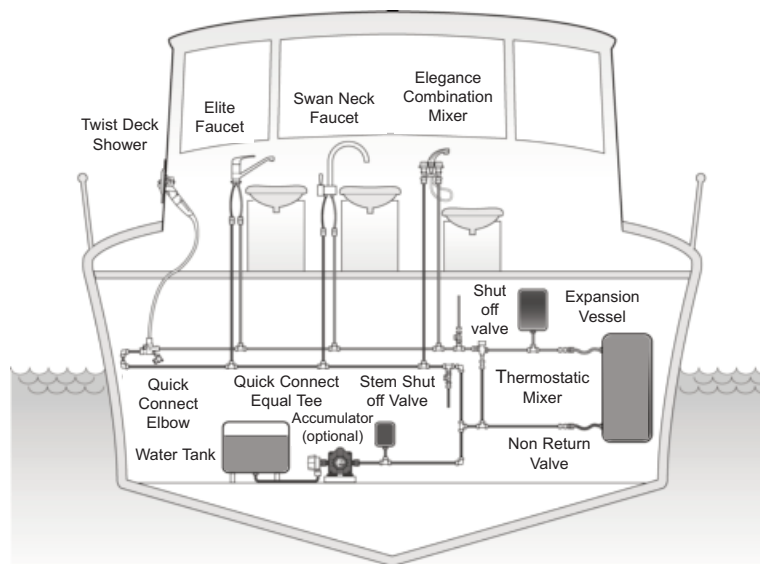

Fig. 1a Typical Installation in a Marine System (Illustration for guidance purposes only)
- Leisure marine vessels (fig 1a)